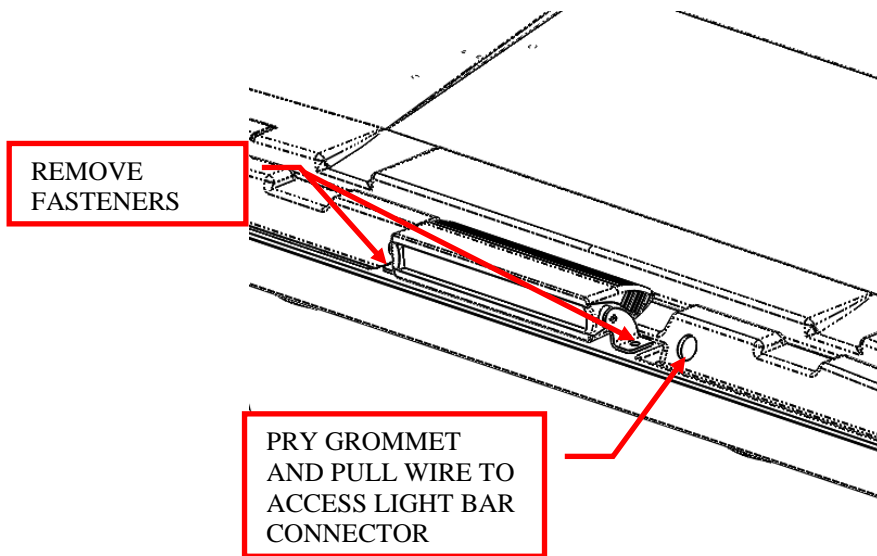

Figure 7: Remove the rear light bar.
5. Unbolt the light bar from the roof of the Audio Shade. Pry the wire harness grommet from the roof, and pull the harness out to access the light bar connector. Unplug the connector and set the light bar aside. See Figure 7.